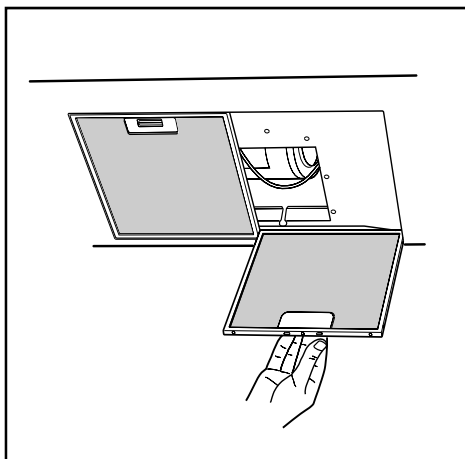

Fig.7
- The minimum distance between the support surfaces of the cooking pots on the cooker top and the lowest part of the cooker hood must be at least 65 cm. If a connection tube composed of two parts is used, the upper part must be placed outside the lower part. Do not connect the cooker hood exhaust to the same conductor used to circulate hot air or for evacuating fumes from other appliances generated by other than an electrical source. Before proceeding with the assembly operations, remove the anti-grease filter(s) (Fig.7) so that the unit is easier to handle.